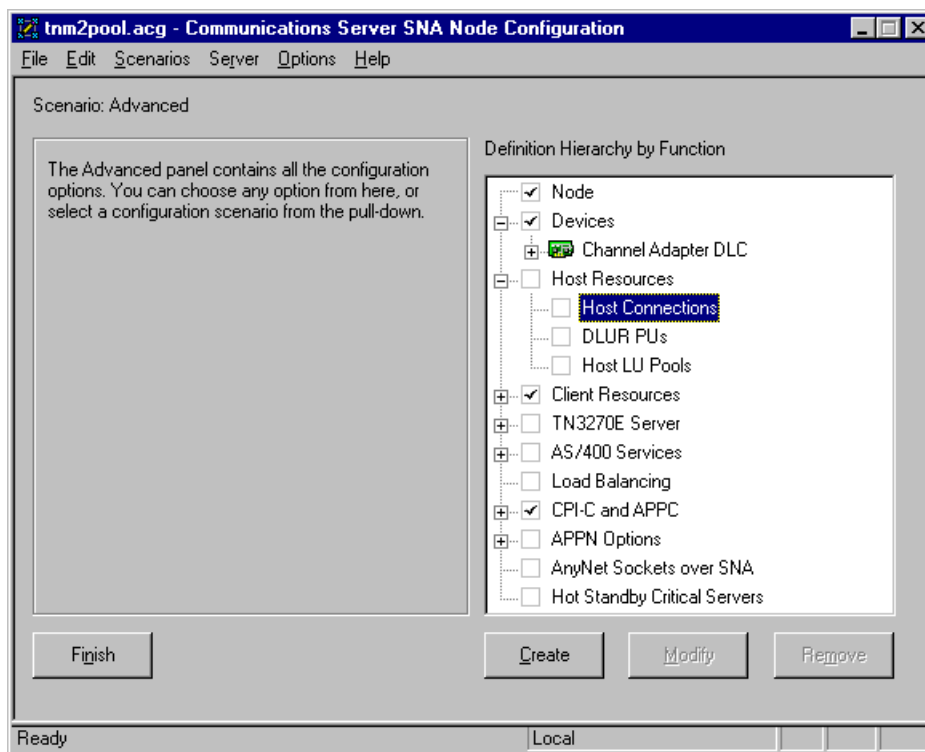

Figure 7-17. Host Connections
1. Once Device configuration has been completed (see previous section) double click “Host Connections” in the Host Resources section of the hierarchy (Figure 7-17).